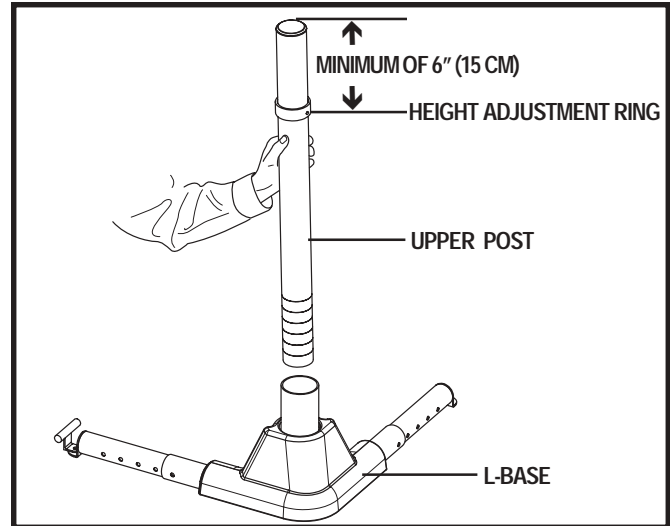
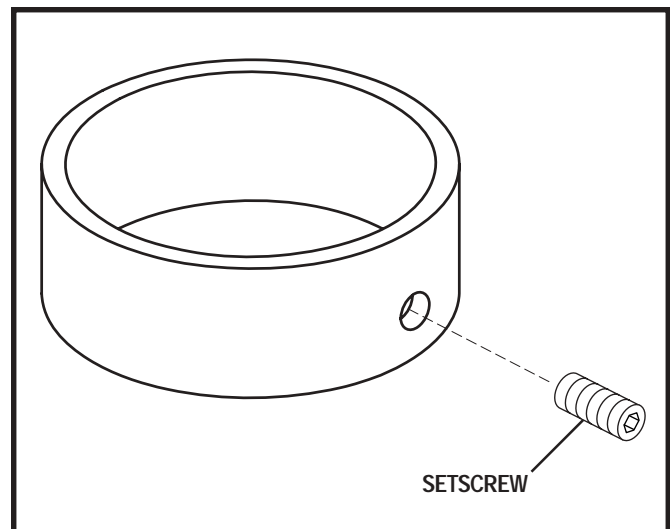

Figure 4. Upper Post Installation
Figure 5. Height Adjustment Ring Assembly
1. Insert the upper post into the L-base. **See figure 4.**
2. Slide the height adjustment ring (see figure 5) over the upper post and tighten the setscrew (a good starting point is approximately 12 in. (30.5 cm) down from the top of the upper post). **See figure 4.** To ensure safe operation, the height adjustment ring must be secured no closer than 6 in. (15 cm) from the top of the upper post.